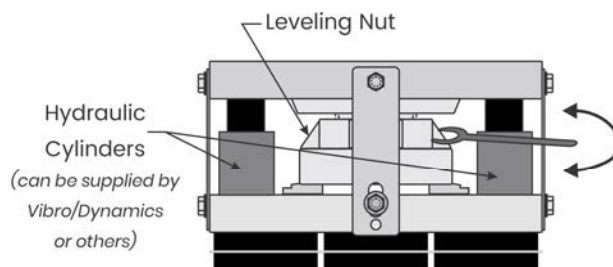

FIGURE 5
14. The Leveling Nut can be turned using a 1" (24 mm) open-end wrench per Figure 5. Horizontal access to the isolators is required.